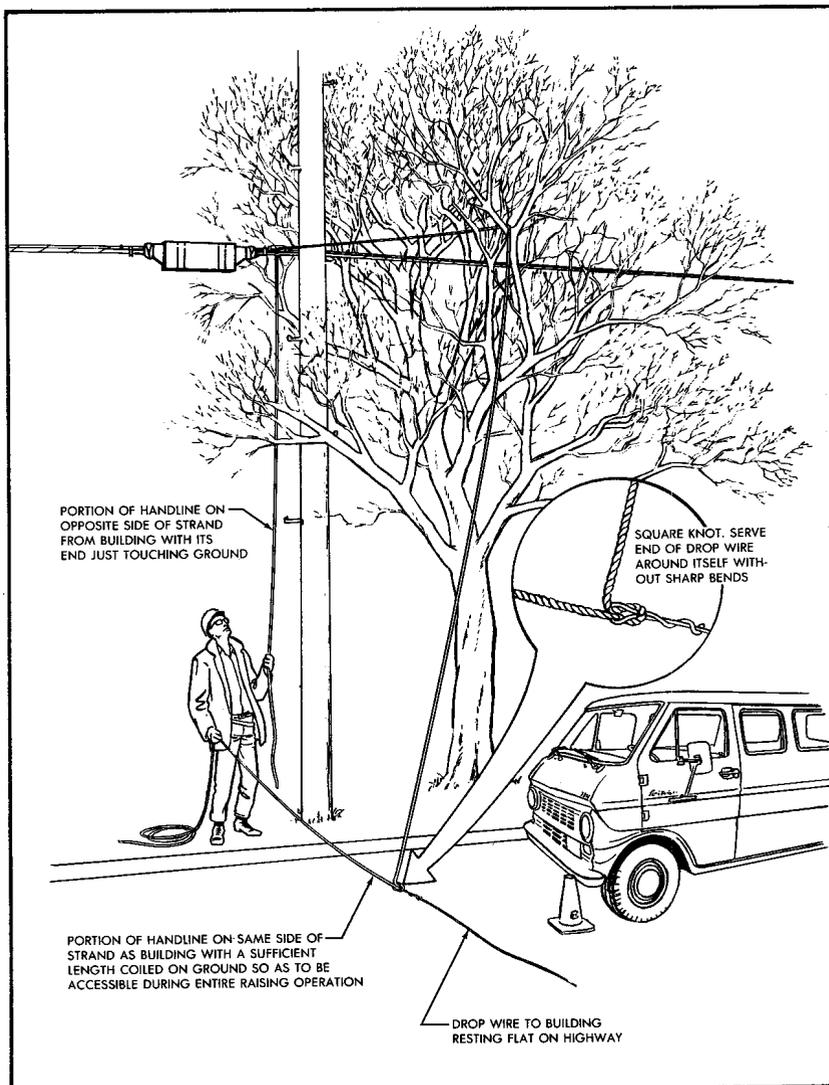

FIGURE 6. Drop Wire Tied to Handline
(1) When placing the handline over the strand, guard arm, drive hook, or crossarm, locate it among the branches of the tree (Figure 6) so the drop wire may be raised to the proper position. A wire raising tool may be used to facilitate this operation. After the handline has been placed, tie it to the base of the pole or the lower rungs of the ladder to avoid interference with pedestrians or vehicles.
(2) Proceed as instructed in paragraph 3.01 or paragraphs 4.01 a., (1), (2), (4), depending on the conditions, except that the wire shall be raised at the pole or strand end of the span as follows:
(b) Tie the end of the drop wire to the handline (Figure 6) at a point in that portion of the handline toward the building which will permit access to both ends of the handline from a position on the ground during the entire raising operation.